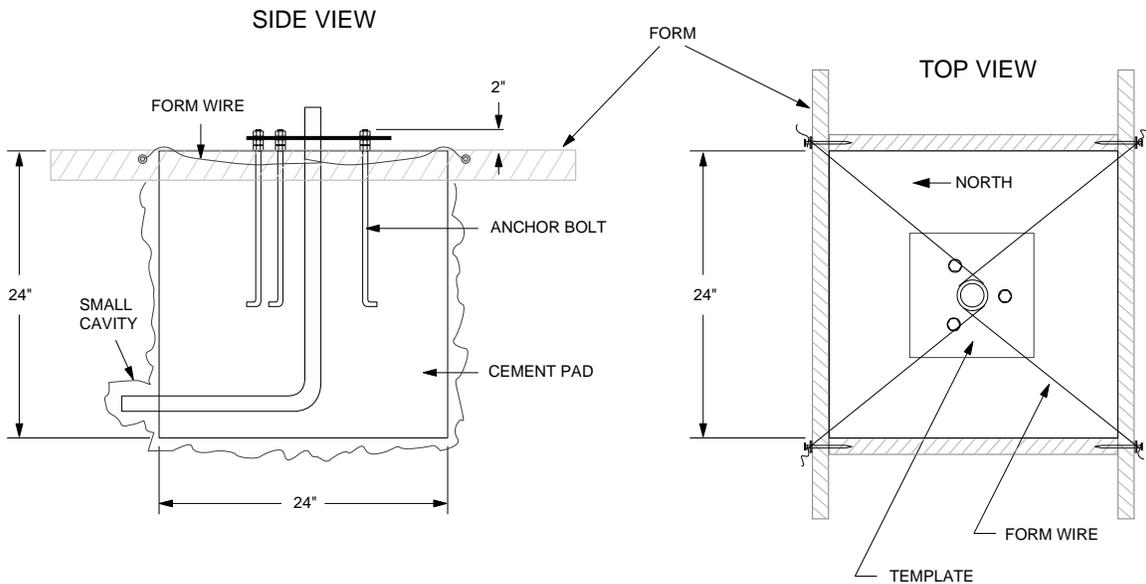

Figure 11
1. The ET Tower attaches to a user supplied concrete foundation constructed as shown in Figure 11.